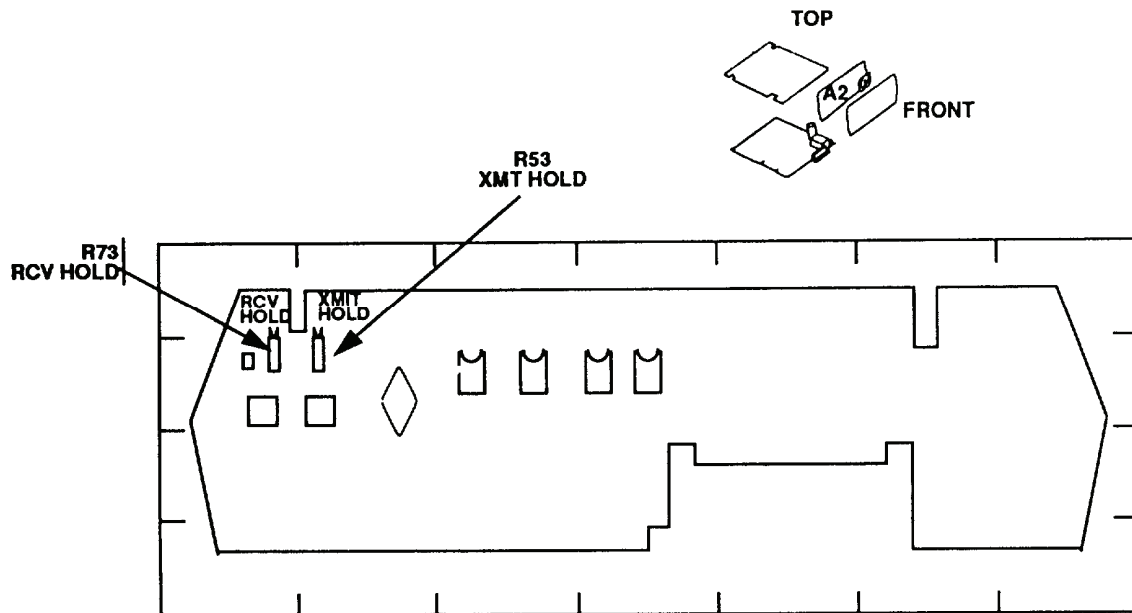

Figure 3. A2 board - adjustment locations.
- (1) Set calibrator for a 6.9 V dc output and resistance standard dials for 0.0  $\Omega$ .
- (2) Position controls as listed in (a) through (c) below:
- (3) Adjust R53 XMT HOLD (fig. 3) until multimeter indicates 24 mA (R).
- (4) Set calibrator for a -6.9 V dc output. Multimeter indication will not change.
- (5) Set calibrator for a 6.9 V dc output.
- (6) Press **REV** pushbutton.
- (7) Adjust R73 RCV HOLD (fig. 3) until multimeter indicates 24 mA (R).
- (8) Repeat (4) above.
- (9) Adjust calibrator for a 50 V dc output. Multimeter will indicate less than 26 mA.
- (10) Press **NOR** pushbutton. Multimeter will indicate less than 26 mA.